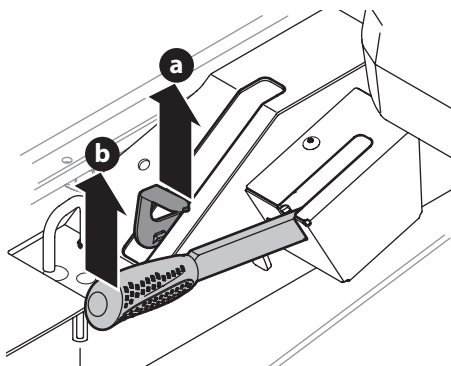

Fig. 2
2. Engage the transmission bypass valves by pulling the bypass lever (a) outward then upward and all the way back (Fig. 2).
4. To release the bypass lever (a), push the lever forward (Fig. 2).
5. To engage the parking brake, pull back completely on the parking brake lever (b) (Fig. 2).